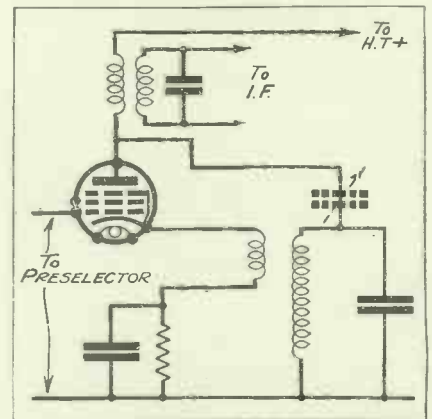

Fig. 6. How a pentode of the H.F. type is used in a self-oscillating mixer circuit.
Method (2) is one which has been used successfully in quite a number of commercial superheterodynes. The circuit corresponds exactly with that for an H.F. pentode which is shown in Fig. 6. Nowadays H.F. pentodes are used almost exclusively in this type of circuit.
Method (3 a) is that of using a self-oscillating frequency-changer of the H.F. pentode type, employing cathode mixing and is shown in Fig. 6. The conversion conductance of an H.F. pentode in this circuit arrangement is very high when used with intermediate frequency transformers having high dynamic resistance, iron-core transformers being very suitable.